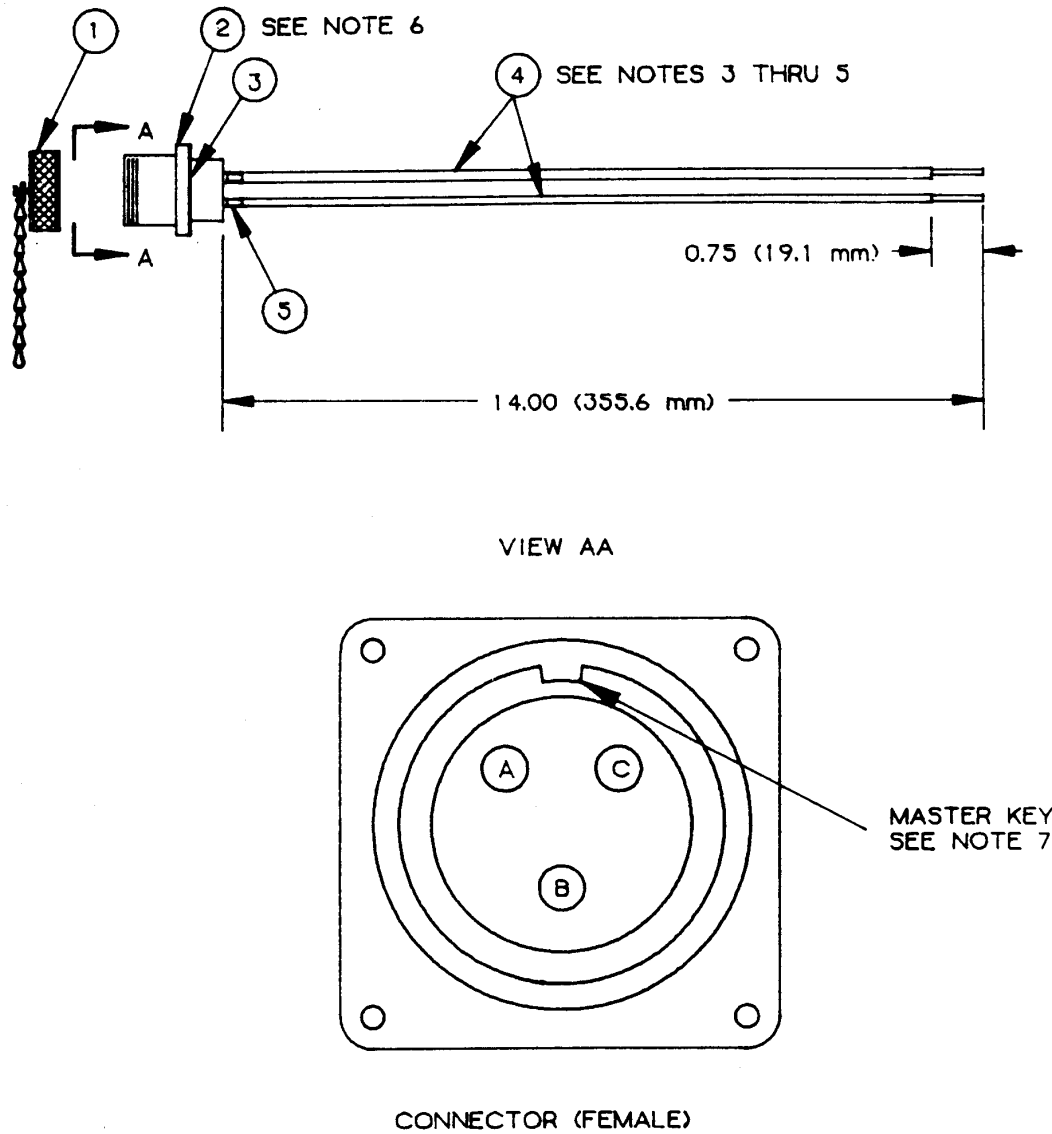

Figure F-13. Output Connector Assemblies, 60-Amp.
M100, 60-Amp Output Connector, (J8)****Component Legend for Figure F-13**
- c. Electrical connector (Figure F-13, Item 2) is furnished with the following: